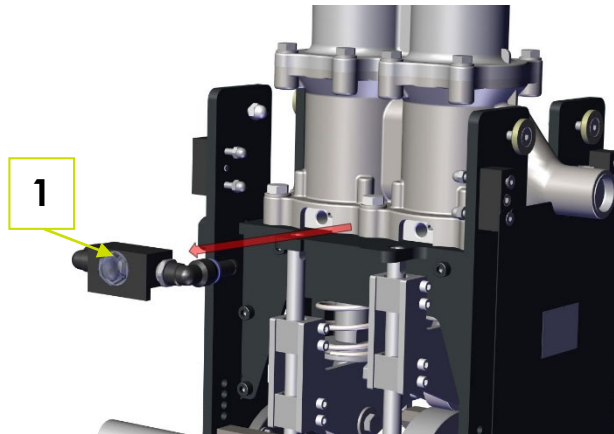

Fig. 5-1: Dismounting the leakage indicator
1. Pull off the leakage indicator (1) in the arrow direction (Fig. 5-1: Dismounting the leakage indicator).